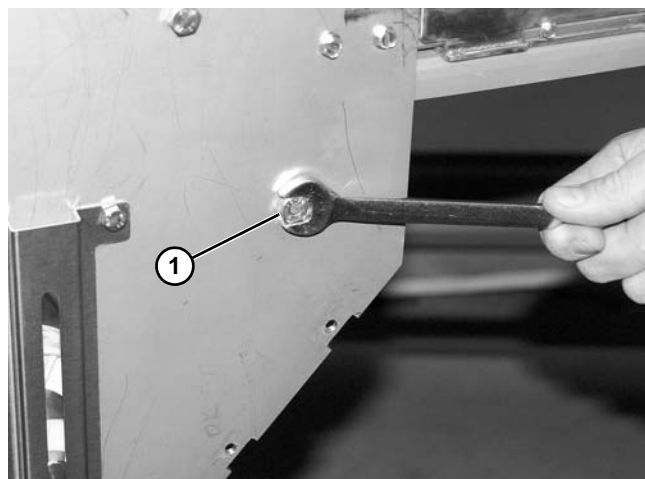
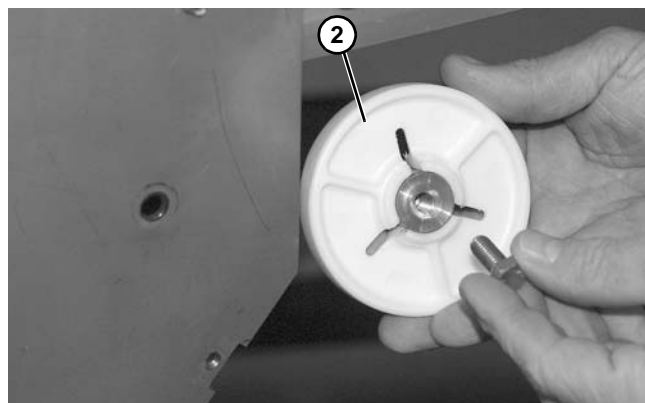

Figure 95
Figure 96
12. Remove hex head screw (**Figure 95, item 1**) and puck (**Figure 96, item 2**). Repeat on opposite side.